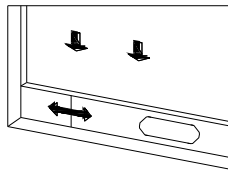
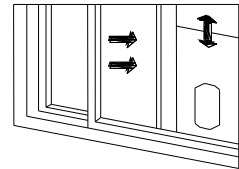

Figure 2
Figure 3
- 1) Half open the window and mount the window sealing plate assembly to the window (as shown in Figure 2 and Figure 3); the assembly can be placed in horizontal and vertical direction.